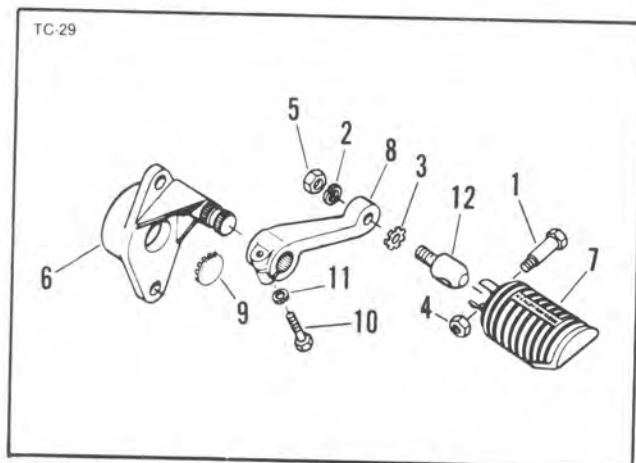

Figure 5-11. Right Passenger Footrest
1. See Figure 5-11 and 5-12.
2. Loosen bolt (10) shown in Figure 5-11 and remove footrest and bracket from bracket assembly.
5. Reassemble footrest (7) to footrest support (8).
6. Adjust footrest height and tighten bolt (10), Figure 5-11, to 8-10 ft-lbs torque.